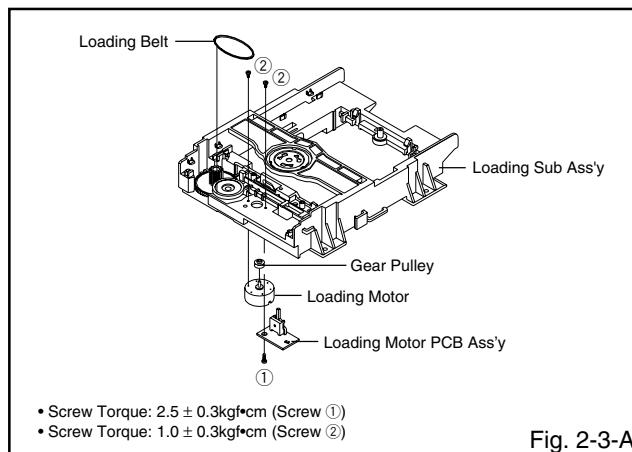

Fig. 2-3-A
#### 2-3: LOADING MOTOR PCB ASS'Y/ LOADING BELT (Refer to Fig. 2-3-A)
1. In case of the Pulley Motor installation, check if the value of the Fig. 2-3-B is correct.
2. When installing the wire of the Loading Motor PCB Ass'y, install it correctly as Fig. 2-3-C.
3. When installing the Loading Motor PCB Ass'y, install it correctly as Fig. 2-3-D.
4. In case of the Loading Motor PCB Ass'y installation, hook the wire on the Loader Sub Ass'y as shown Fig. 2-3-E.